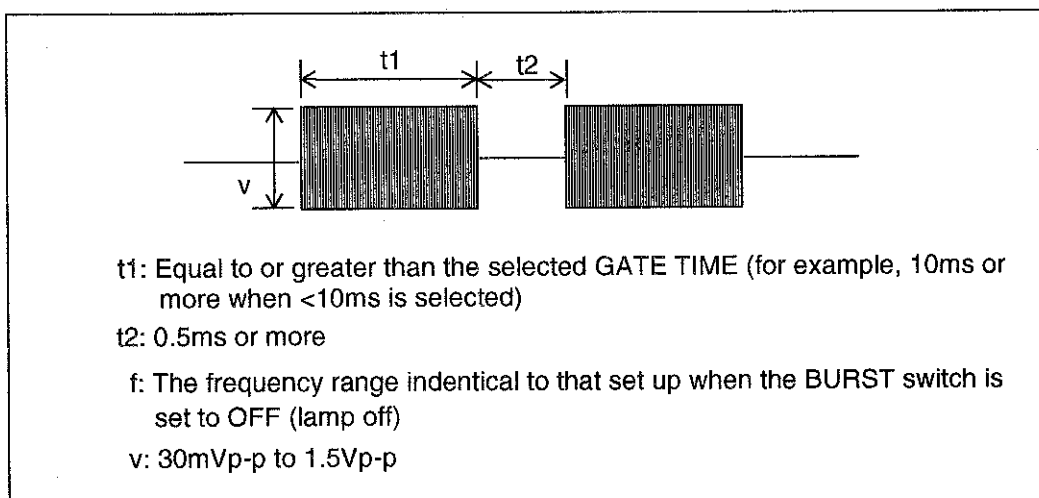

Figure 3-3 Burst Signal Measurement Condition in FREQ.A
- ① When measuring a burst signal, set the BURST switch to ON. Figure 3-3 shows the measurable burst signal condition.
- ② R5362B need to select the frequency by RANGE switch according to the signal to be measured. The measuring range consists of the low frequency range of 60MHz to 1500MHz and the high frequency range of 1500MHz to 3000MHz.